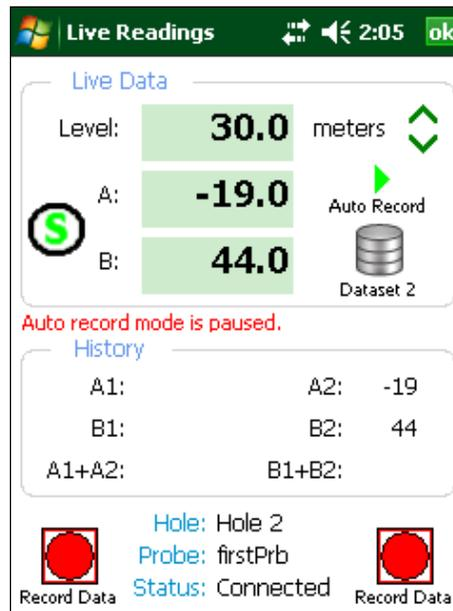

Figure 48 - Auto record paused. Dataset 2 selected
7. Tap the “Dataset 1” icon and observe that the red status text message will change to “Auto record mode is paused” and the “Pause” icon will change to the “Play” icon while “Dataset 1” becomes “Dataset 2” (see Figure 48).